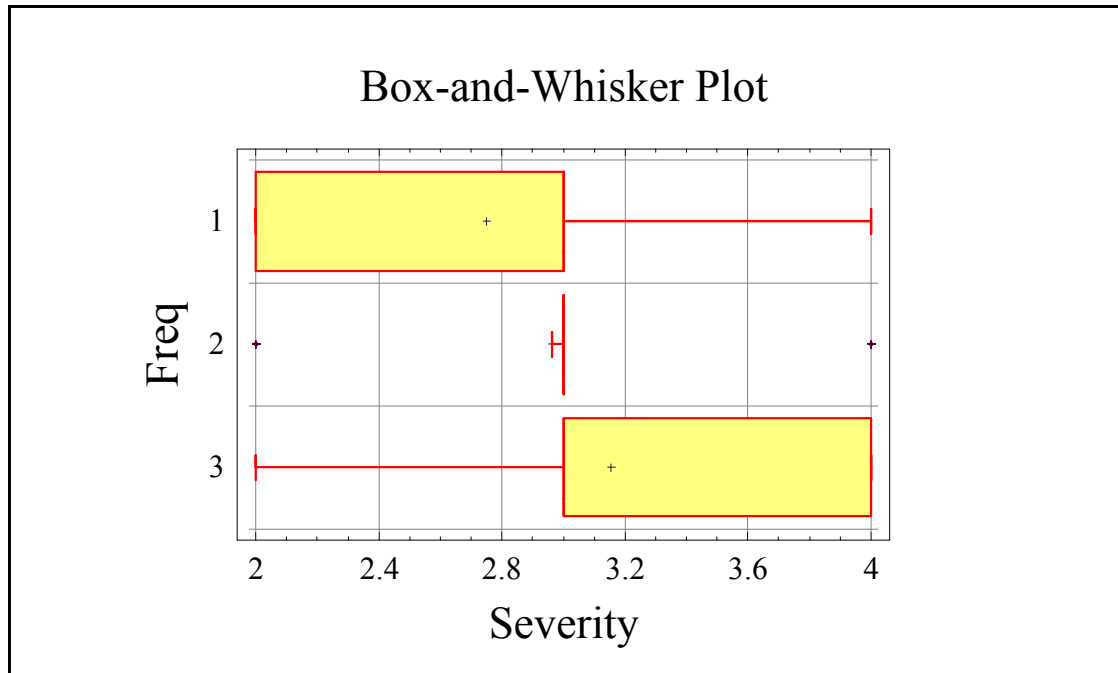

Figure 5 Box & Whisker Plot of Severity vs. Frequency
- e. **Figure 5** shows the three Box & Whisker plots for Severity vs. Frequency of Occurrence.